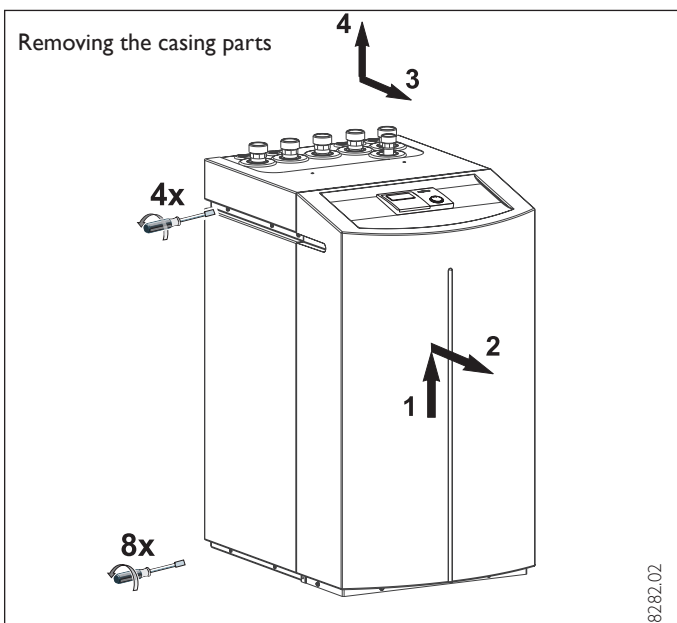

Fig. 10
2. Remove the eight screws from the equipment plinth (Fig. 10), and set down the casing onto the floor.